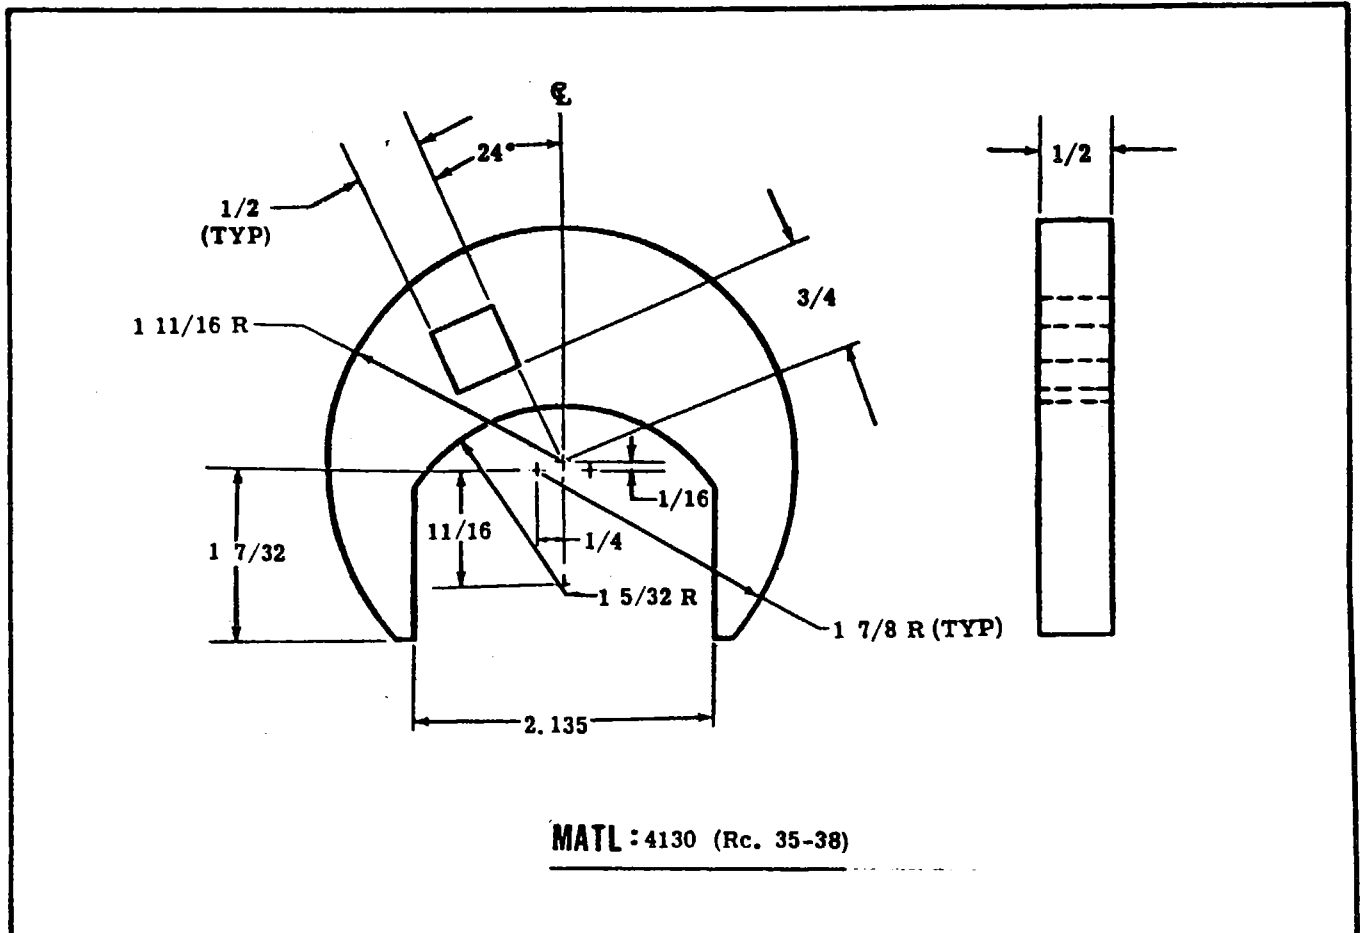

Figure 12-16. Wrench Adapter Fabrication
A special wrench adapter for adapter nut (11) Part No. SE-709, is available from the Cessna Service Parts Center, or one may be made as shown in figure 12-16.